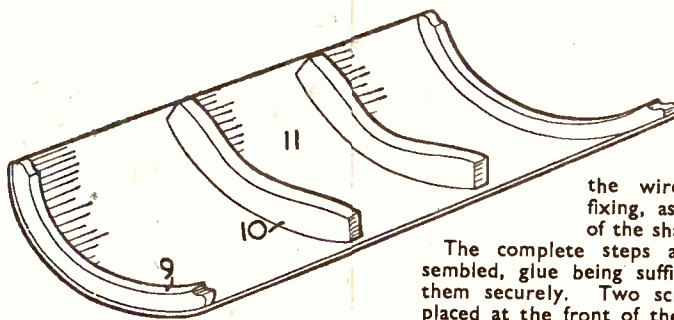

Fig. 3—The roof
Now cut the ribbed ends of the roof (9) and the inside roof supports (10). The roof itself (11) is a piece of stout card measuring 8 ins. by 5 ins., and this can be cut next, and the whole assembled, as shown at Fig. 3.